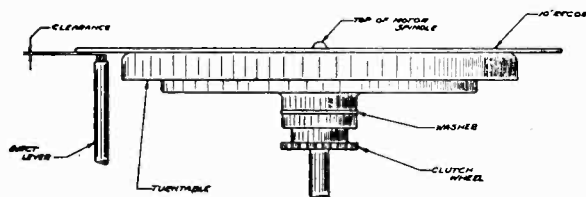

Fig. 17—Correct Height of Record on Turntable Spindle
- a. Note the height of the record on the motor spindle, and compare this height with the correct height as shown in Fig. 17. If the record is considerably lower, raise the height by placing one or more cork or fibre washers, part 51870, under the turntable.